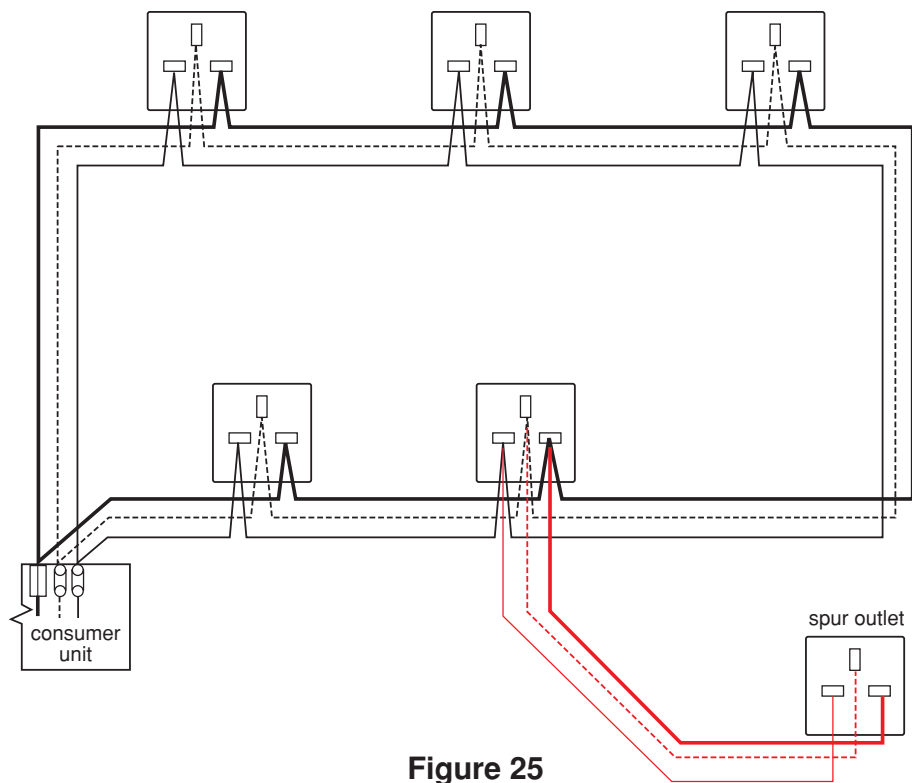

Figure 25
- (64) Figure 25 shows a completed ring circuit; show how the wiring can be altered to accommodate the connection of the spur outlet. (Page 283.)